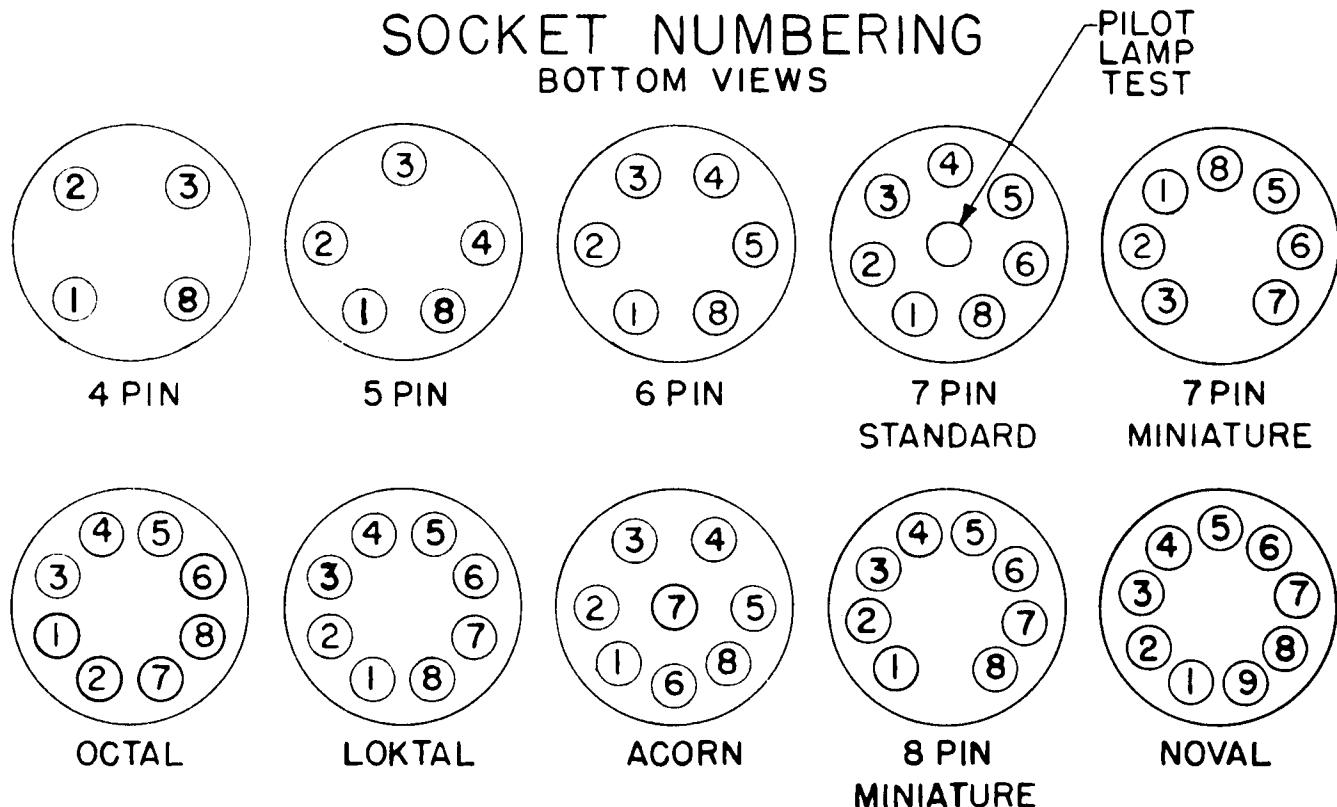

Figure 4-2. Socket Numbering
(25) PILOT LAMP TEST. The center of the large 7-pin socket is used to check pilot lamps. Set the filament selector switches on JR. Set the filament voltage switch to the proper voltage for the lamp being tested.
(26) SOCKET NUMBERING. In order to reduce dialing to a minimum the socket contacts are numbered as shown on Figure 4-2 which shows the bottom views. The numerical values of the lettered dials are as shown in Table 4-2.